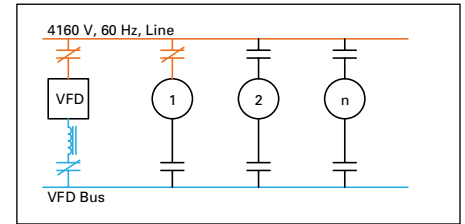

Figure 10.4-16. VFD Transfers Motor #1
- PLC opens motor select contactor (Figure 10.4-16)